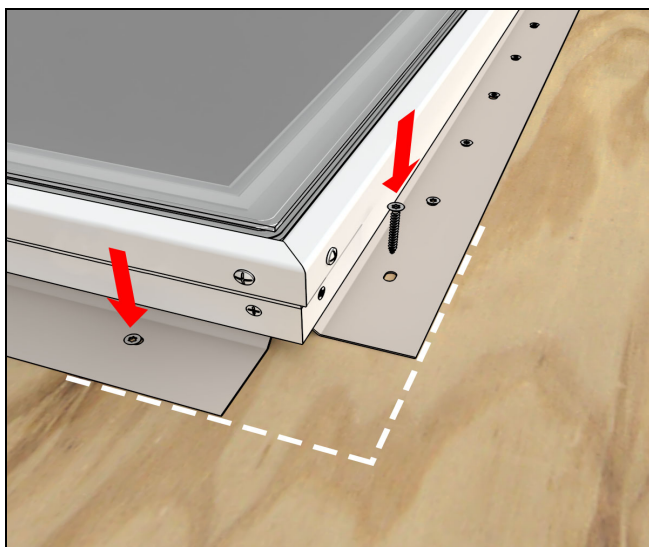

Figure 11
9. Anchor unit with appropriate fasteners, 1-1/2" roofing nails or minimum of #8 x 1-1/2 exterior grade screws, one fastener per pre-drilled hole in mounting flange. See Figure 11.